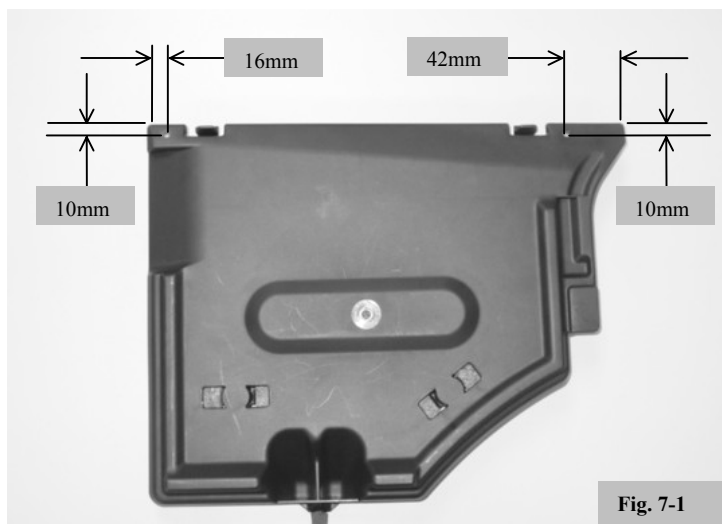

Fig. 7-1
- (a) Place the PS Cover Marking Template on the cover and mark the hole locations. (Fig. 7-1)